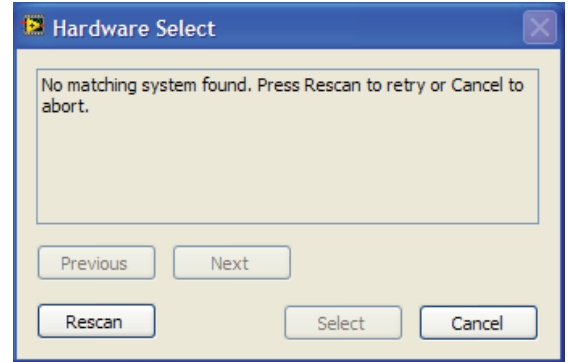

Figure 7. Pop-Up Window Error
2. If the SDP-B board is not connected to the USB port when the software is launched, a connectivity error displays (see Figure 7). Simply connect the evaluation board to the USB port of the PC, wait a few seconds, click **Rescan**, and follow the instructions.